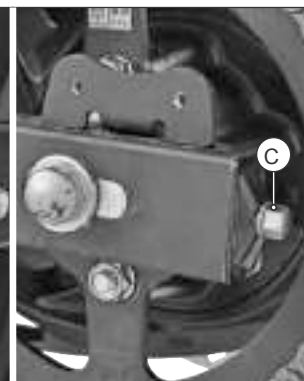

Fig. 2.96B
- Similarly, loosen the chain adjuster bolts (A and B) to some extent in order to remove the chain. (Fig. 2.96B)